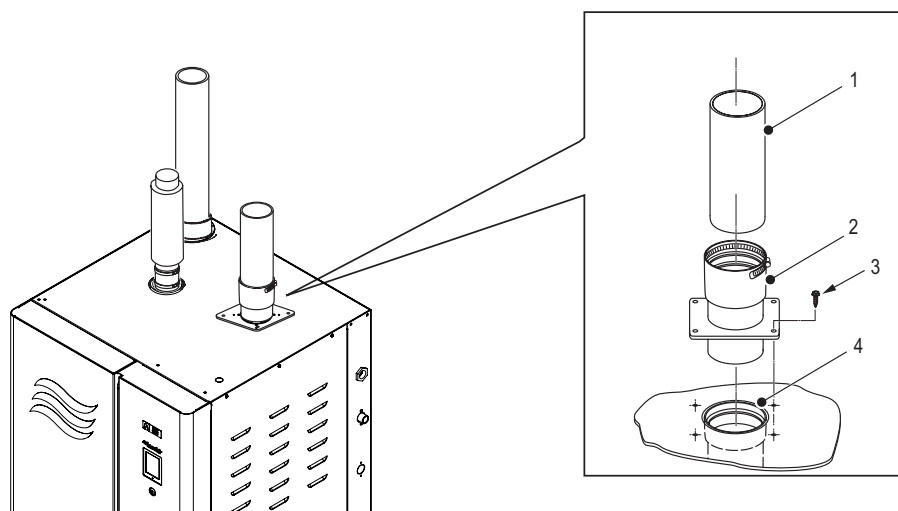

Figure 21: Exhaust Vent Connection – CS/NX/MT Model (Category IV Appliance)
To connect the exhaust vent, first insert the adaptor into the exhaust outlet and secure it to the top panel with four sheetmetal screws (supplied) – refer to Figure 21. Then slide the exhaust vent into the adaptor until it bottoms out, and secure it with the clamp built into the adaptor. A sealant is not required.
- **Category IV** appliances can be vented vertically or horizontally, and can terminate on a rooftop or sidewall provided they meet the requirements of the National Fuel Gas Code (ANSI Z223.1), or CAN/CGA B149 Installation Codes. Refer to Figure 20 on page 44 and Figure 21 on page 45. Adhere to vent manufacturer's instructions.
- Category IV: During normal operation, a Category IV appliance will create exhaust condensate. Install condensate drain lines according to vent manufacturer's instructions every 15 ft (4.5 m) on all horizontal runs, and at every horizontal-to-vertical transition. Install a full "Tee" with condensate port and trap at all horizontal-to-vertical transitions. The condensate trap must be minimum 12 in (300 mm) in diameter. Refer to Figure 20 on page 44 and Figure 21 on page 45.